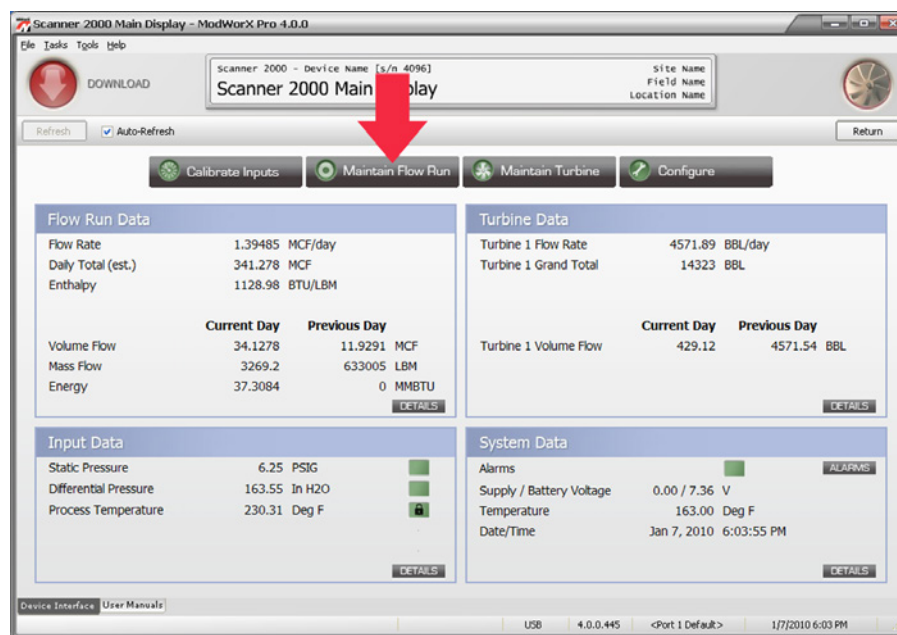

Figure 11.1
1. Click on the **Maintain Flow Run** button in the task menu bar on the Main Display screen (Figure 11.1).